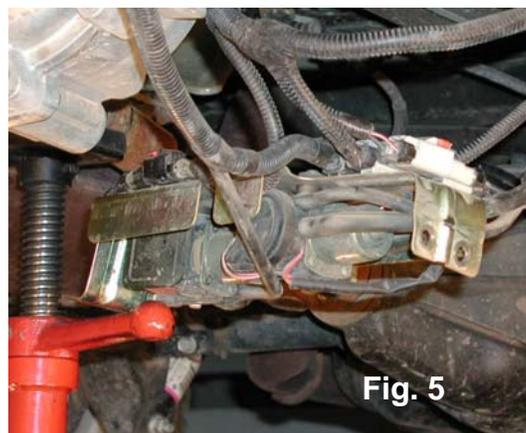

Fig. 5
- **Figure 5** shows the end of the bracket that was closest to the driver's frame rail – it needs to be 'unbent' at the bend next to the mounting holes so that it will bolt to the TT rib later. Removing this bend is somewhat difficult due to the 'bead' stamped into the bracket – it will go easier if you cut through the bead at the bend with a die grinder or hacksaw.